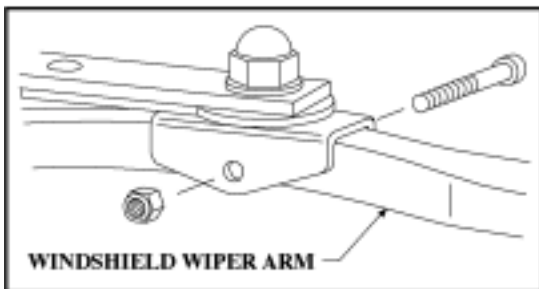

Figure 6—Windshield Wiper Blade Assembly Bracket
6. See Figure 6—Windshield Wiper Blade Assembly Bracket Location
3. Remove bolt from bracket assembly on the wiper arm. **Figure 6—Windshield Wiper Blade Assembly Bracket.**